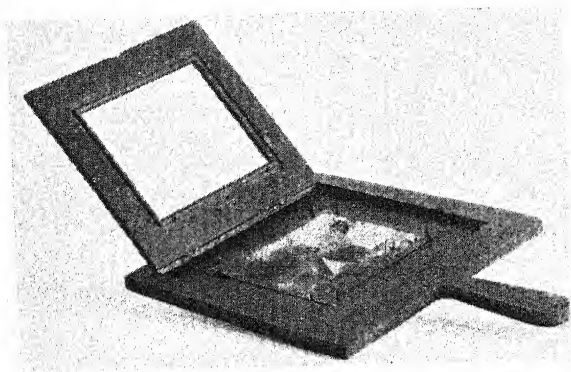

Fig. 2.
1. In the Eastman Processing Frame, Fig. 2, the film can be handled like a plate in printing and enlarging. In either case, the excess water-drops must be carefully removed